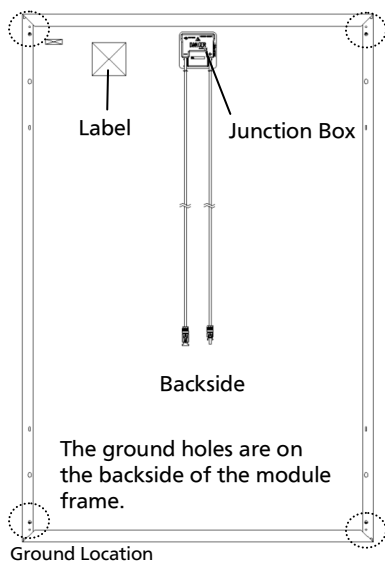

Figure 6.1
- Each ledge on the module frame has two larger holes for bolts (0.205" diameter (5.2 mm)). These ground holes are marked with "earth indication mark" adjacent to their location on the frame rail (see Figure 6.1).
Note: Use the ground holes illustrated in Figure 6.1.